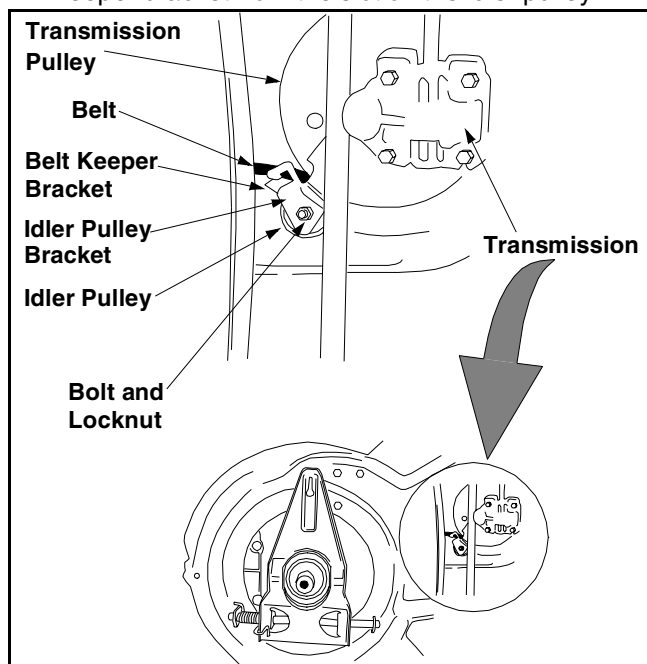

Figure 18
- Tilt the transmission forward and loosen the idler pulley bolt and lock nut half a turn. See Figure 18.
- Place the new belt over the transmission pulley. Start the belt in the pulley groove and rotate the pulley until the belt is seated in the transmission pulley. Refer to Figure 18.
- Using pliers, rotate the belt keeper bracket so that it snaps into slot on the idler bracket. Refer to Figure 18.